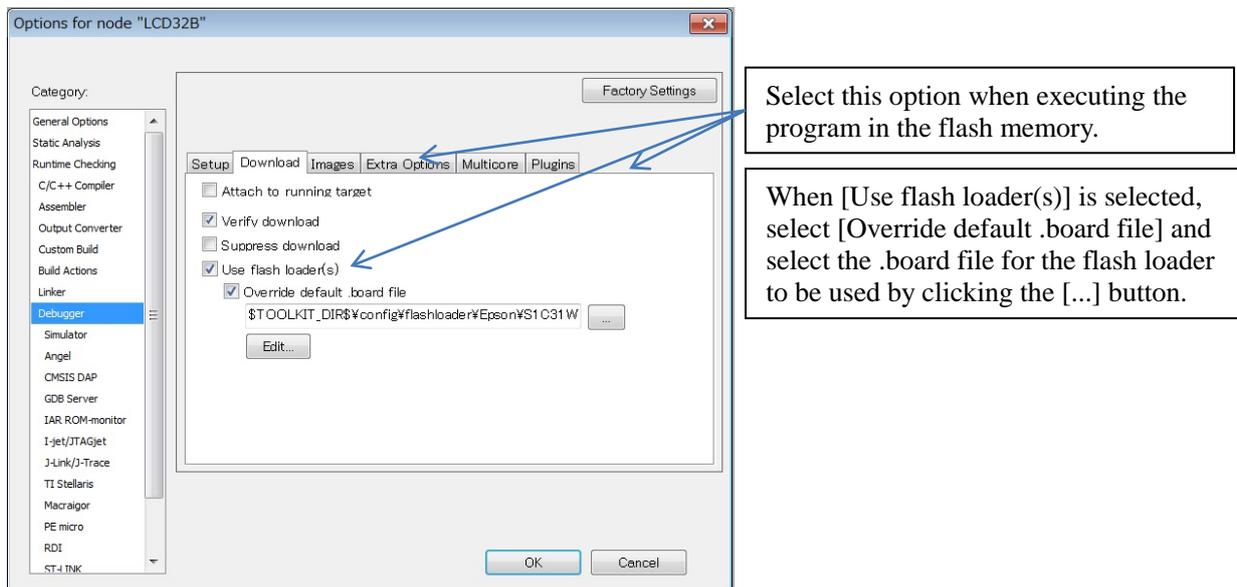

Figure 2.3.5.1 Flash Loader Setting
- (1) Select the [Project] > [Option] in the IAR EWARM menu.
- (2) Select the [Debugger] in the [Category] list on the [Options for node “{project}”] dialog (Figure 2.3.5.1).
- (3) Select the [Download] tab (Figure 2.3.5.1).
- (4) Disable the [Use flash loader(s)] checkbox (Figure 2.3.5.1).
- (4) Enable the [Use flash loader(s)] checkbox (Figure 2.3.5.1).
- (5) Enable the [Override default .board file] checkbox (Figure 2.3.5.1).
- (6) Click the [...] button and select “S1C31W74_int.board” as a board file (Figure 2.3.5.1).